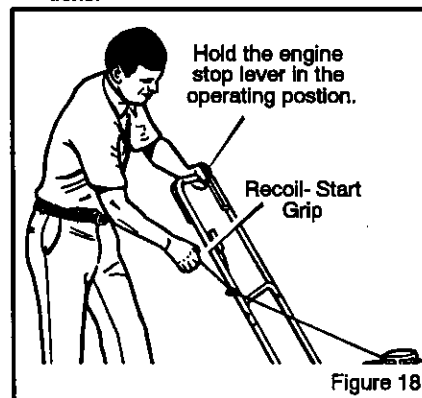

Figure 18
6. Stand behind the mower (Figure 18). Use one hand to hold the engine stop lever in the operating position as shown. Use the other hand to hold the recoil-start grip.